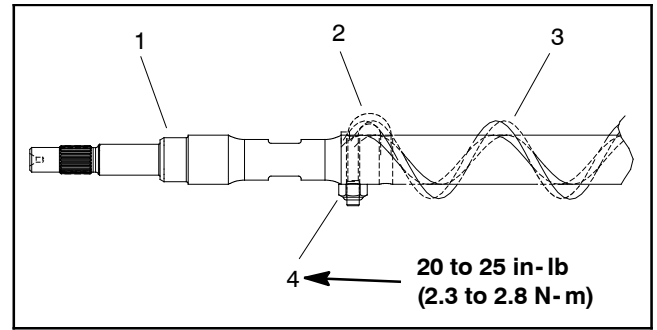

Figure 45
2. If roller brush was removed from roller shaft, slide brush onto shaft while rotating brush. Secure brush to shaft with two (2) J- bolts and lock nuts. Make sure that the J- bolts are installed with the threaded portion on the outside of the brush (Fig. 45). Torque lock nuts from **20 to 25 in-lb (2.3 to 2.8 N-m)**.